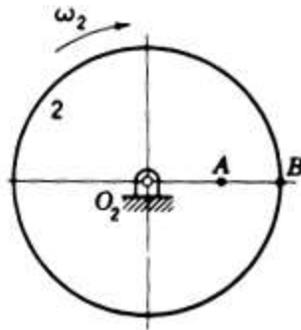

Figure 5
12. a) Two points A and B located along the radius of a wheel as shown in figure 5, have speeds of 50 and 100 m/s, respectively. The distance between the points AB = 250 mm. Determine the diameter and angular velocity of the wheel. 6 CO2 [K3]